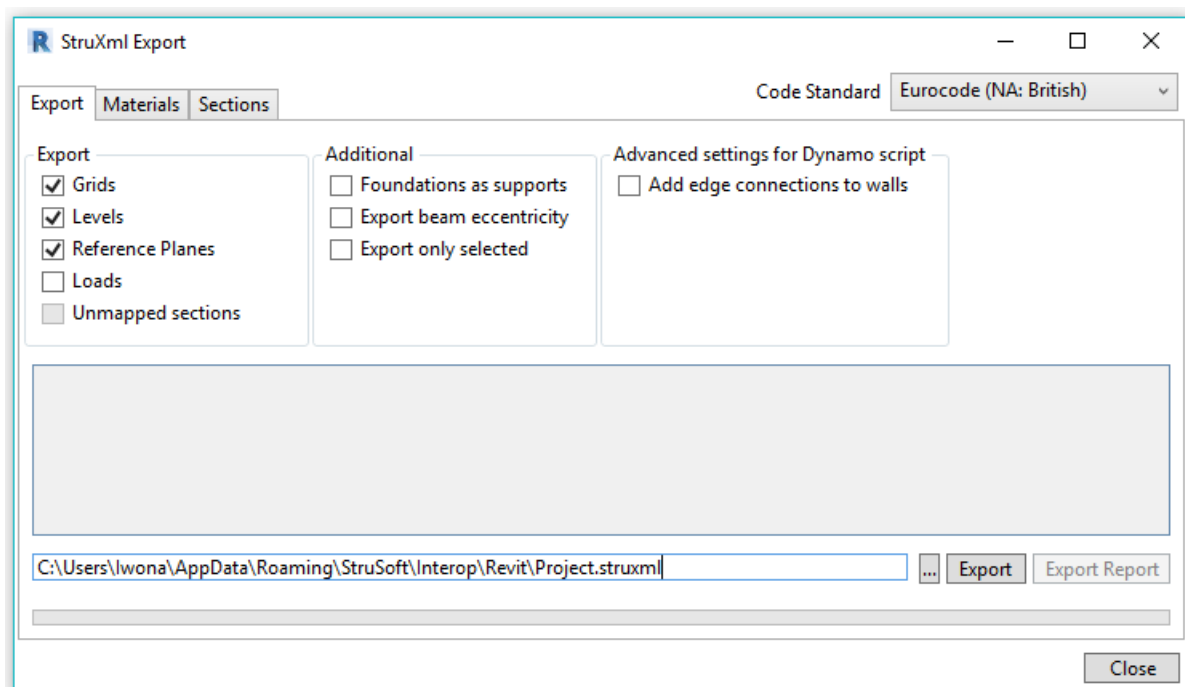

Figure III-34 (newest version of the dialog)
7.1.1. After launching StruXML Export dialog there are no warnings about unmapped elements, as shown in Figure III-34.